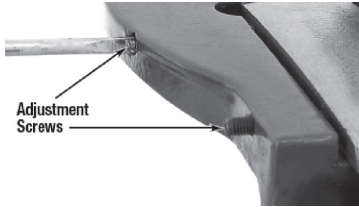

Figure 5
2. Using a small, straight bladed screwdriver, Turn the two set screws #15 & #17 (Figure 5) inward (clockwise) to decrease blade gap, turn outward (counter-clockwise) while applying a slight outward pressure to increase blade gap.